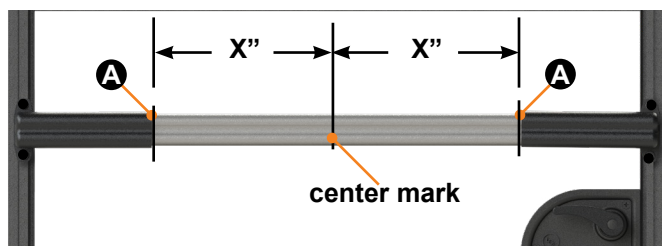

Fig.25
4. Adjust the push bar in the sleeves and measure to make sure an equal amount of bar (X") is showing from the center mark made in step 1 to the start of the each sleeve (Fig. 25). This ensures there is an equal amount of bar inside each sleeve for strength. Mark on the bar where the sleeves start with a non-permanent marker (Fig.25A). You may need additional assistance to hold the assembly in place while the measurements are taken and marks are made.